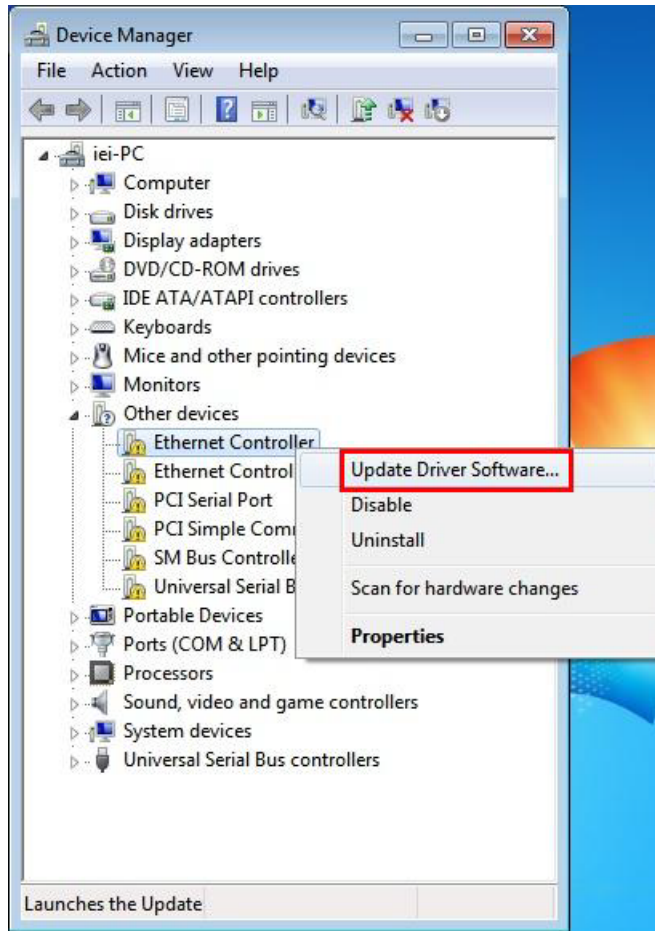

Figure 7-14: Device Manager List
Step 4: A list of system hardware devices appears (**Figure 7-14**).